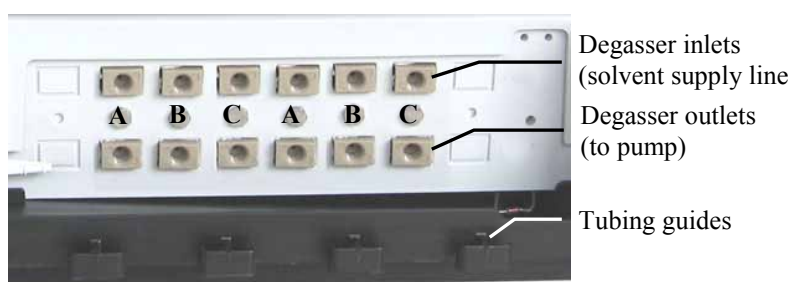

Fig. 9: Example for degasser connections (here SRD-3600)
2. Tubing guides in the SRD facilitate the connection of the solvent supply lines (→ Fig. 9, page 26). Place the solvent supply line in a tubing guide, remove the blind fitting from the associated degasser outlet if necessary (→ Fig. 9), and connect the solvent supply line with the associated line label.